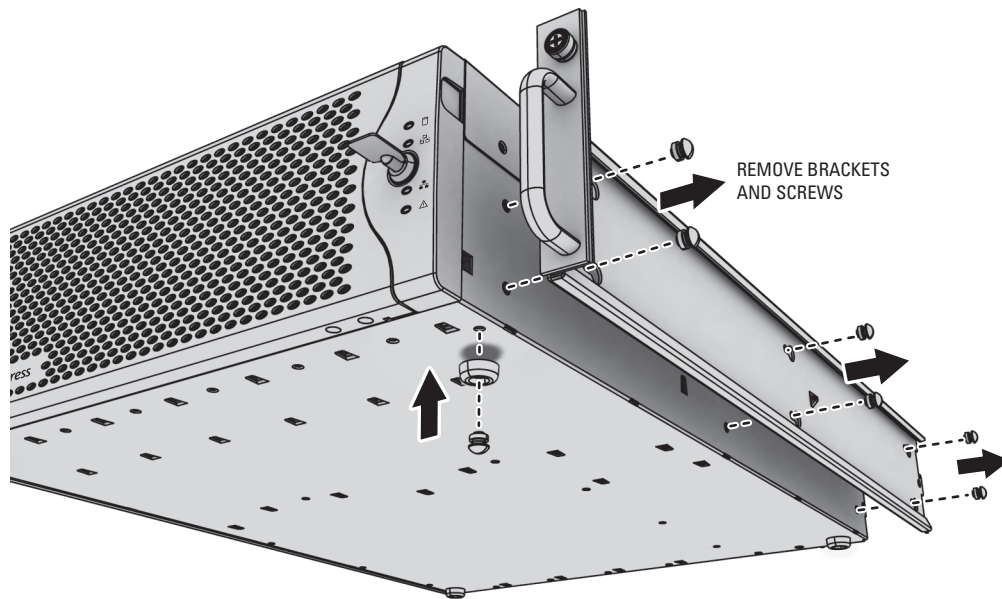

Figure 8. Installing Rubber Feet and Removing Brackets
1. Make sure the rubber feet are installed to prevent surface damage. If not, secure each rubber foot to the bottom panel of the unit (refer to Figure 8). Use the four 8-32 x 0.375-inch Phillips pan head screws (supplied).